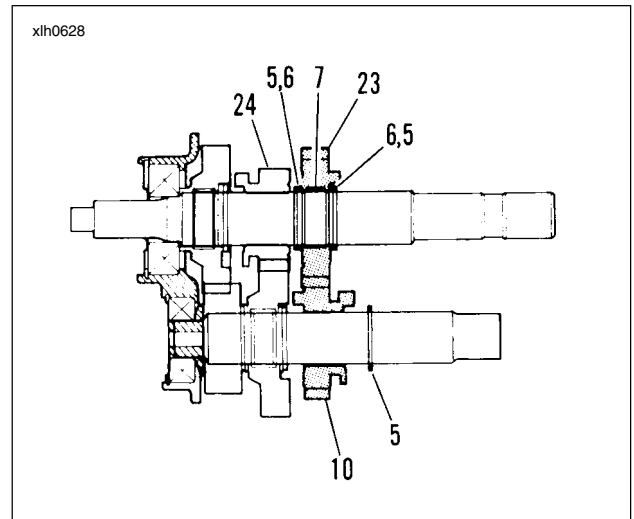

Figure 6-36.
4. Remove split bearing (7) that was under gear (11) and thrust washer (6) on the countershaft. See Figure 6-36. Remove retaining ring (5) next to countershaft 3rd gear (10). Slide countershaft 3rd gear (10) off free end of shaft.
5. At mainshaft, between mainshaft 1st gear (24) and mainshaft 3rd gear (23), expand retaining ring (5) and move next to mainshaft 1st gear along with thrust washer (6). Move mainshaft 3rd gear as far as possible toward mainshaft 1st gear (24). Expand retaining ring (5) at opposite side of mainshaft 3rd gear and slide off end of shaft. Remove mainshaft 3rd gear (23) and its split bearing (7).
6. Slide thrust washer (6) off end of mainshaft. Expand retaining ring (5), which is next to mainshaft 1st gear (24), and slide off end of shaft.